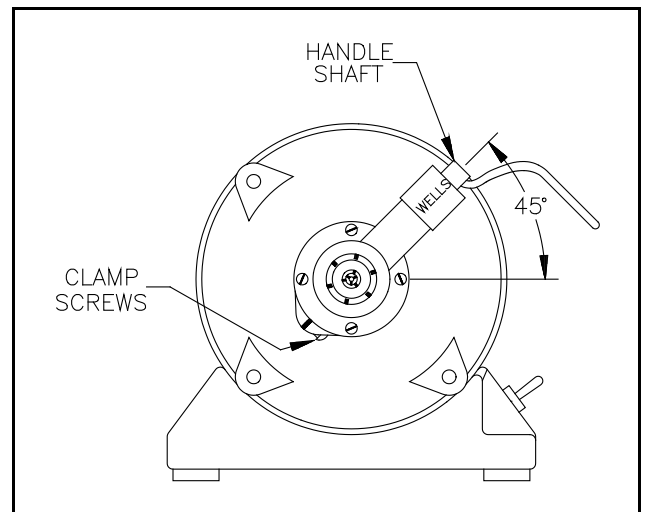

Figure 9. Left end view
- 9.2 Align the Quick Chuck on the hub so that the handle shaft points at a 45 degree angle above horizontal. See Figure 9.